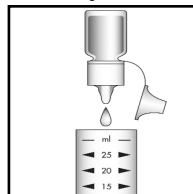

Figure 2
2. Add 4 drops of S-2800 Acidifier Solution (fig. 2). Stir to mix the contents of the cup.